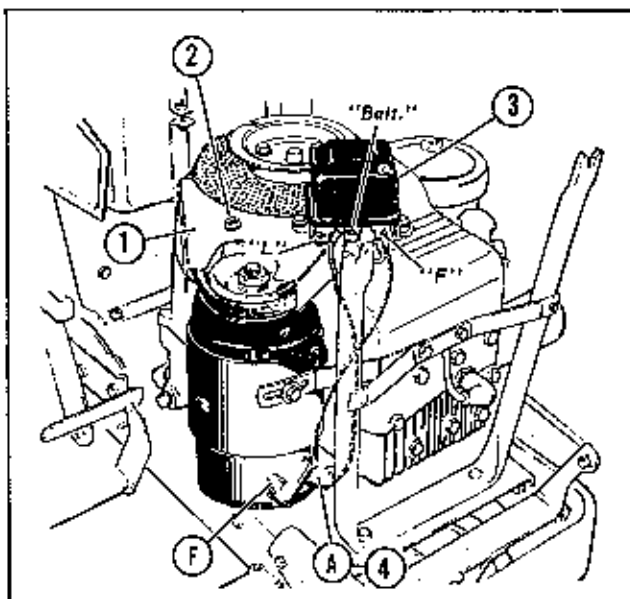

Figure 6
6. Place the pulley guard over the mounting bracket as shown in #1, Fig. 6, and secure in place with two 1/4"-20 x 5/8" long hex capscrews and 5/16" lockwashers at #2, Fig. 6. Install the voltage regulator #3, Fig. 6, over the remaining bracket holes as shown with three terminals facing forward. Before putting the voltage regulator in place, attach one of the equal length small diameter wires to the terminal located on the underside of the voltage regulator. Secure the regulator to the bracket with two 1/4"-20 x 5/8" long hex capscrews and 1/4" lockwashers.
8. At this point it will be necessary for you to refer to the exploded-view illustration of the starter-generator system for proper identification of parts called out in the following paragraphs. As previously mentioned at the point of installation of the voltage regulator, two small diameter wires of equal length are furnished with the starter-generator kit, one has been fastened to the terminal on the underside of the voltage regulator, and the other small diameter wire is to be fastened to the "F" terminal on the front of the voltage regulator. Slip the smaller diameter rubber terminal cover over the end of wire connected to the underside of the voltage regulator and attach wire to "A" terminal on the starter generator as shown at #4, Fig. 6.
Pass the wire from the "F" terminal on the voltage regulator and one end of the long fabric covered wire through the larger diameter rubber terminal cover and connect to the "P" terminal of the starter-generator. Secure with hex nuts and lockwashers. Slide the terminal covers in place over the terminals of wires and starter-generator as shown at #4, Fig. 6.